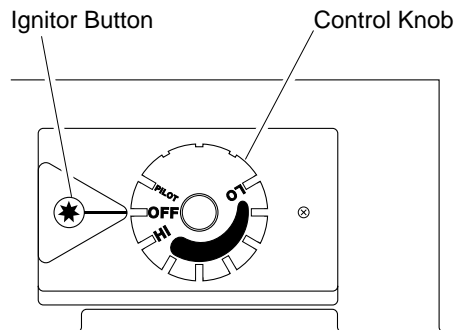

Figure 27 - Control Knob In The OFF Position
4. Wait five (5) minutes to clear out any gas. Then smell for gas, including near the floor. If you smell gas, STOP! Follow "B" in the safety information, column 1. If you don't smell gas, go to the next step.
5. Turn control knob counterclockwise to the PILOT position. Press in control knob for five (5) seconds (see Figure 27).